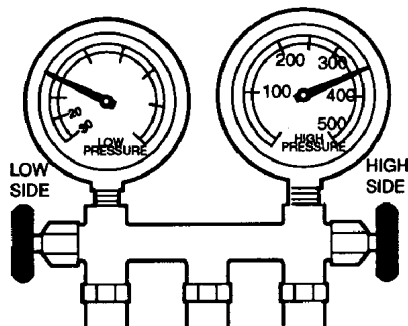

Figure 24 Low Suction Pressure-High Discharge Pressure
1. **Low suction pressure-High discharge pressure** (Figure 24).